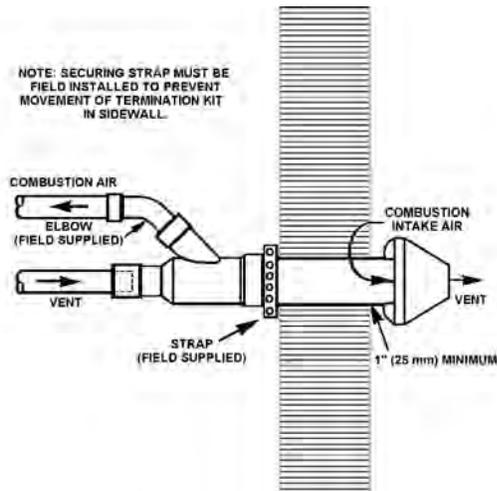

Figure 36. Sidewall Concentric Pipe Orientation and Attachment
B. Ensure the Y connection is oriented so the air intake side of Y is on top. See *Figure 36* (page 33).
C. Secure assembly to structure as shown in *Figure 36* (page 33) using field-supplied metal strapping or equivalent support material.
- Cement heater combustion-air and vent pipes to concentric vent termination assembly. See *Figure 36* (page 33) for proper pipe orientation and attachment.